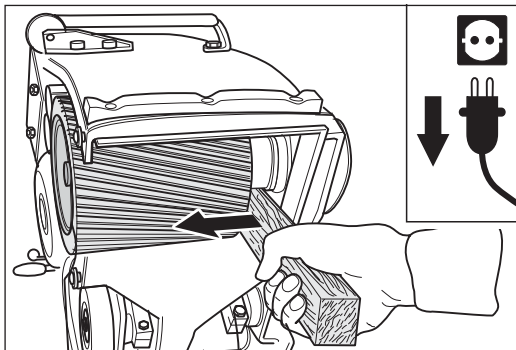

Fig. 50 If the sanding drum is too stiff to be removed, carefully lever it away with a wooden lathe. **Never use brute force!** Similar to figure.
**If the sanding drum is too stiff to move, use a wooden lever to dislodge it (Fig. 50), so as not to damage the machine! Never attempt to loosen the sanding drum by hitting with a hammer!**